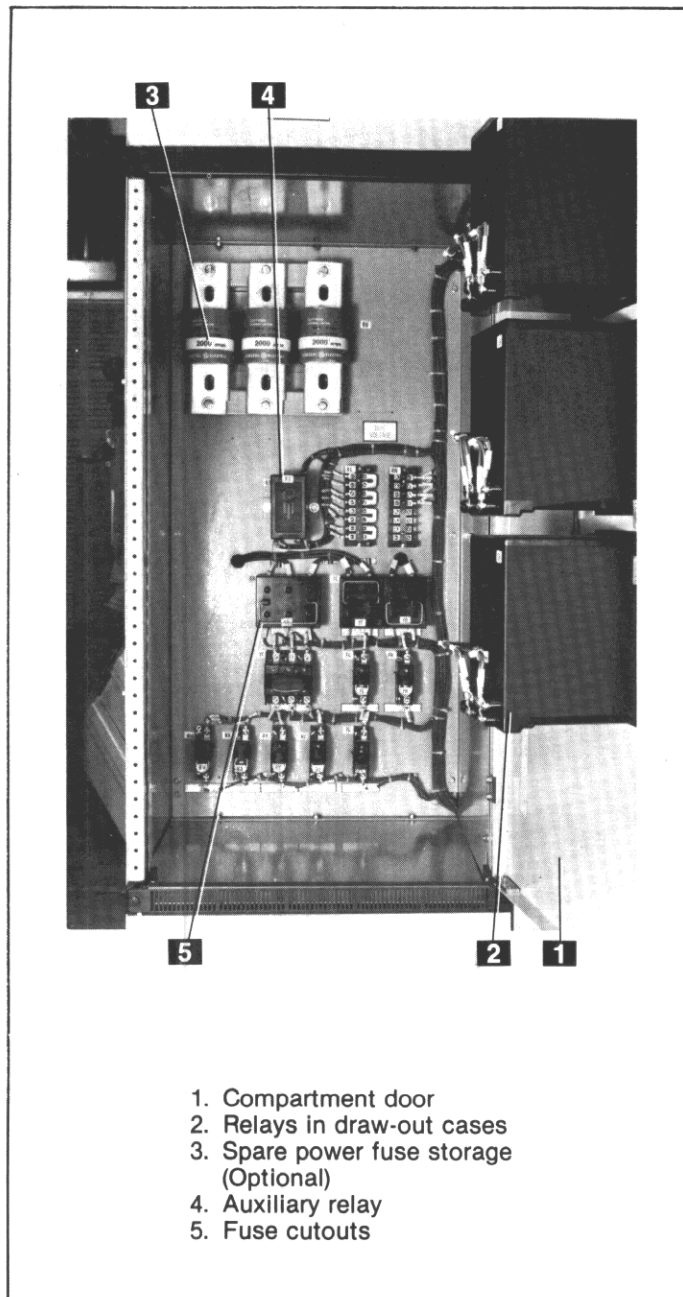

Fig. 3-21. Auxiliary/transition compartments — view of top section
Figure 3-21 illustrates an auxiliary/transition compartment with switchgear-type relays mounted in semi-flush draw-out cases (2) installed on the compartment door (1). Space in the compartment has been used for storage of spare power fuses (3).